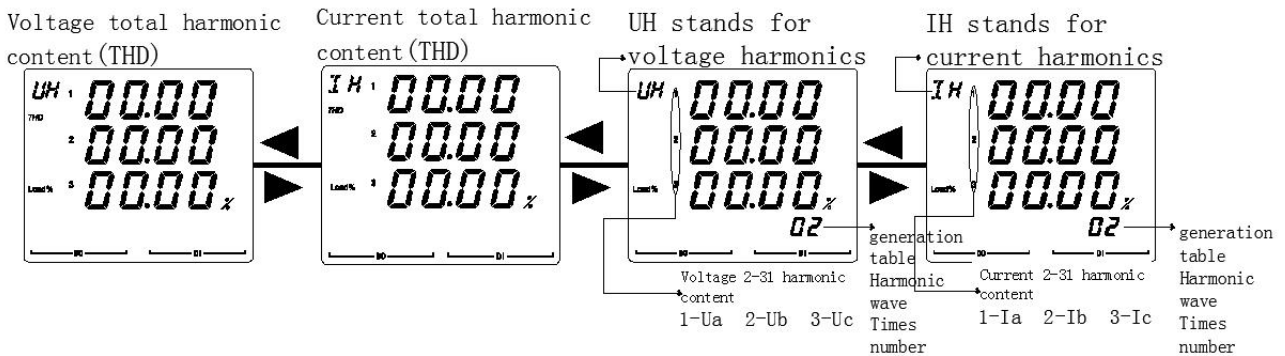

Figure 23
5.2.5 View the harmonic parameters of the PZ72L/80L/96L meter as shown in Figure 23.